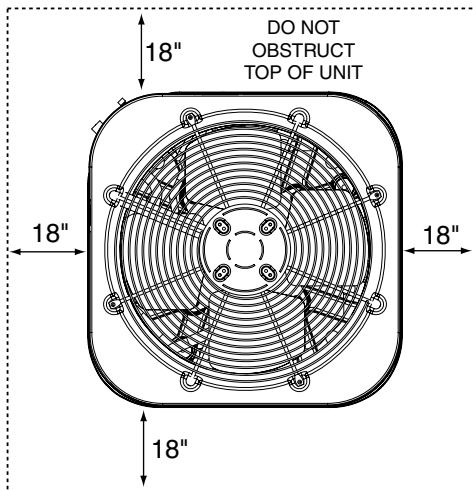

Figure 1. Clearance Requirements
- Sufficient clearance for unobstructed airflow through the outdoor coil must be maintained in order to achieve rated performance. See Figure 1 for minimum clearances to obstructions.
- Clearances must be in accordance with those shown in Figure 1.